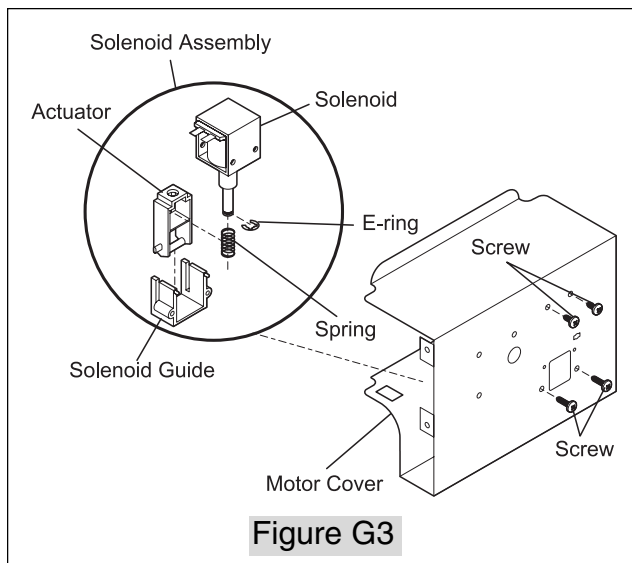

Figure G3
7. Remove four mounting screws on front of Motor Cover and pull Solenoid Assembly free. (See Figure G3)